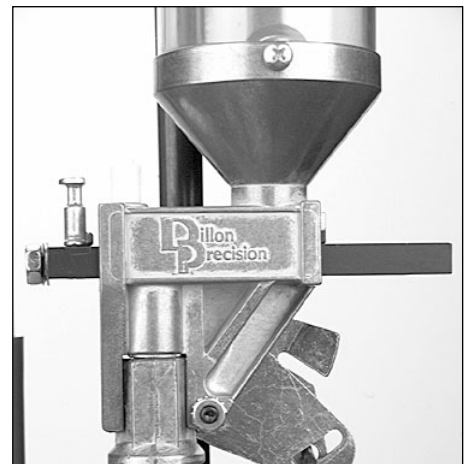

FIG 133
2. Powder Bar Adjustment FIG 133: